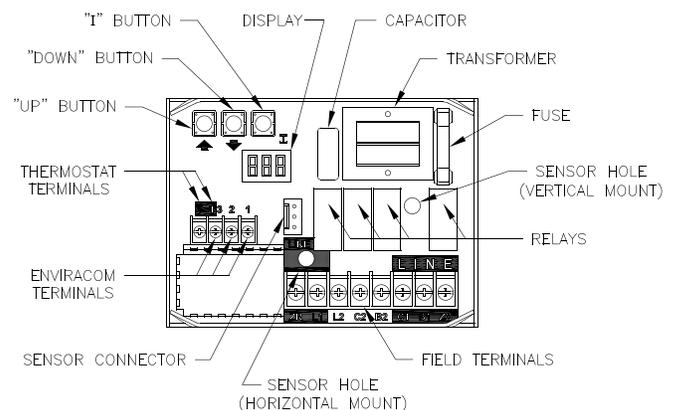

Figure 5: Intelligent Oil Boiler Control
- b. The boiler's sequence of operation is shown as Status Codes on Boiler Control display. See Table 4 and Figure 5.
- d. If the thermostat is not satisfied and the Operating Setpoint (SP) is reached the system circulator will continue to operate and the burner will stop. When the boiler water temperature drops below the setpoint less the differential setting the burner will restart.
- f. When an indirect water heater aquastat call for heat is wired to the “ZR” terminal the Boiler Control starts a domestic hot water circulator connected to the “ZC” terminal and when the boiler temperature is less than Operating Setpoint (SP), the boiler control energizes the oil primary to turn on the burner without circulator pre-purge delay.
- g. On burner start, if the CAD cell does not see flame within approximately 15 seconds, primary control will shut down the burner and enter into a lockout mode. A lockout is reset by pressing the reset button located on the primary control. If the flame is lost while the burner is firing, the primary control shuts down the burner, enters a 60 second recycle delay, and repeats the ignition sequence. If after three (3) trials for ignition, flame is not detected, primary control will enter into restricted mode. Restricted mode is reset by holding down the reset button for 15 seconds.
- b. The boiler’s sequence of operation is shown as Status Codes on Boiler Control display. See Table 4 and Figure 5.